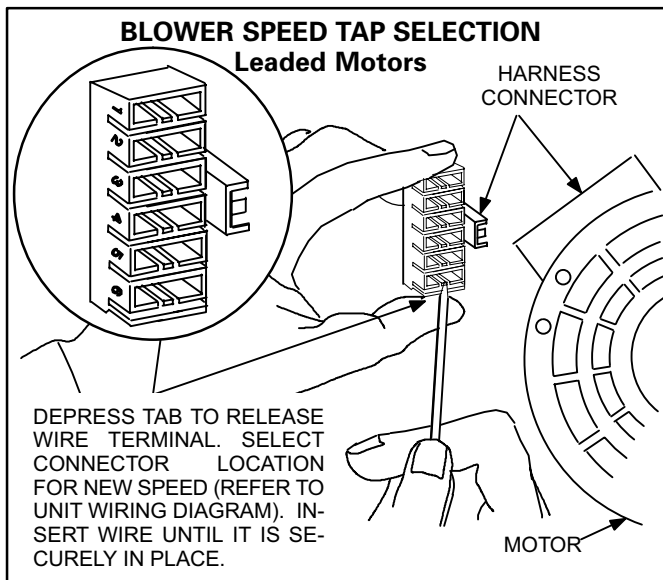

FIGURE 24
- 4 - Depress harness connector tab to release wire terminal. Select connector location for new speed (refer to unit wiring diagram). Insert wire terminal until it is securely in place. See figure 24.